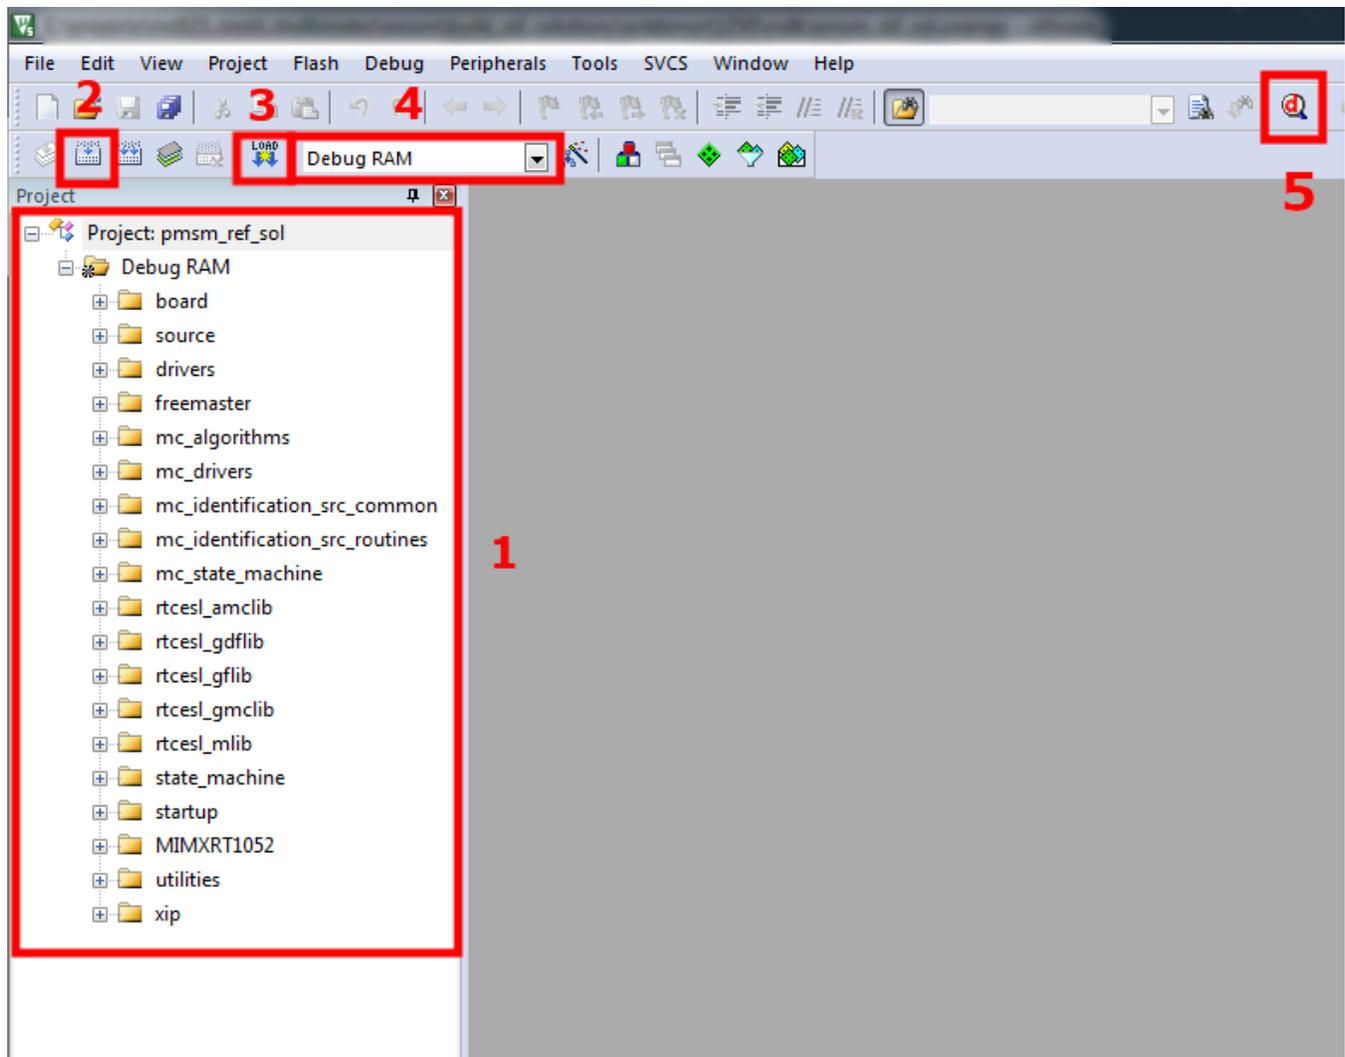

Figure 24. Keil workspace
- Point 1 in Figure 24 shows the imported project’s file structure.
1. Select the “Debug RAM” build configuration (Point 4 in Figure 24).
3. Press the “Build” button (Point 2 in Figure 24).
4. After a successful build, the application is ready for download to the RAM. To perform this action, press CTRL+F5 or click the “Debug” button (Point 5 in Figure 24).
- To stop debugging, press the “Debug” button (Point 5 in Figure 24).
2. Select the “Release FLASH” build configuration (Point 4 in Figure 24).
4. Press the “Build” button (Point 2 in Figure 24).
5. After a successful build, the application is ready to be downloaded to the Hyper Flash. To perform this action, click the “Download” button (Point 3 in Figure 24). If any error occurs, perform a mass erase (click “Flash->Erase”) and repeat this step.
6. After the compiled project is flashed, press “CTRL+F5” or click the “Debug” button (Point 5 in Figure 24).